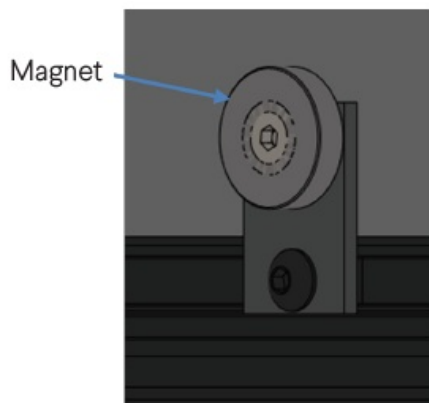

Figure 3: Magnet Mount Assembly
3. Fasten and secure the magnet mount into the rail of the frame (see figure 3.) The puck is mounted on the wall.